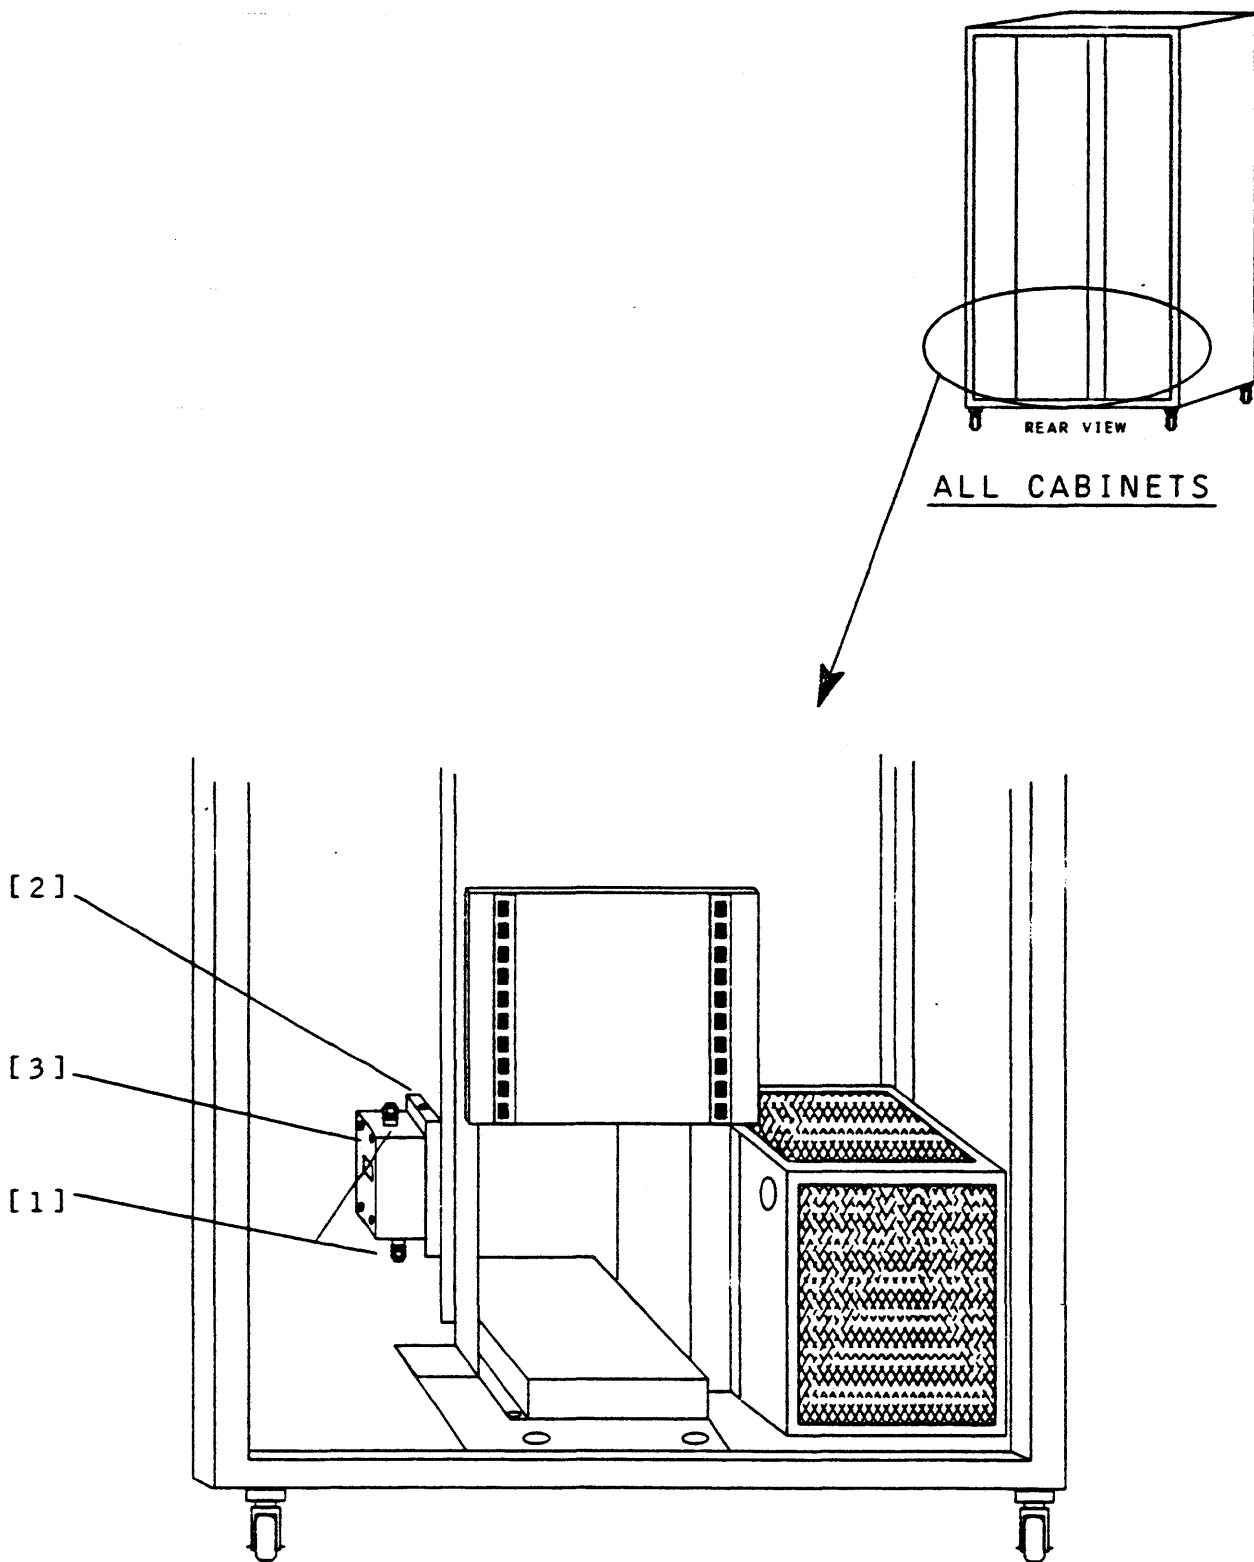

FIGURE 2.8-1. ACTUATOR MODULE REMOVAL/INSTALLATION
2. Disconnect faulty actuator's connector plugs in following order ONLY: P3, P2, and P1 (Figure 2.8-1, [1]).
3. Using cross-tip screwdriver, remove retaining hardware and faulty actuator (Figure 2.8-1, [2]).
1. Note position of defective module DIP switches and set replacement actuator switches to identical settings (Figure 2.8-1, [3]).